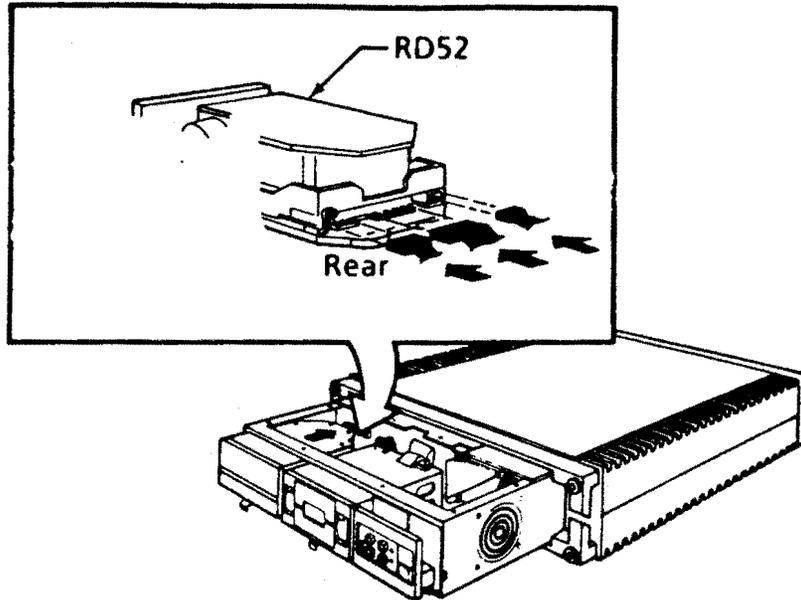

Figure 6-18: RD52 Cable Connection
5. Connect the dc power and two signal cables (Figure 6-18). Push the drive into the chassis until it latches.